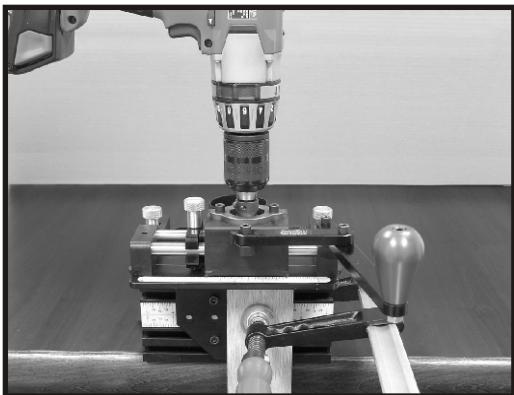

FIG. 14
1. Once you have determined the position of the workpiece and clamped it securely in position, insert the drill bit into the drill guide bushing to begin milling a mortise (Fig. 14).